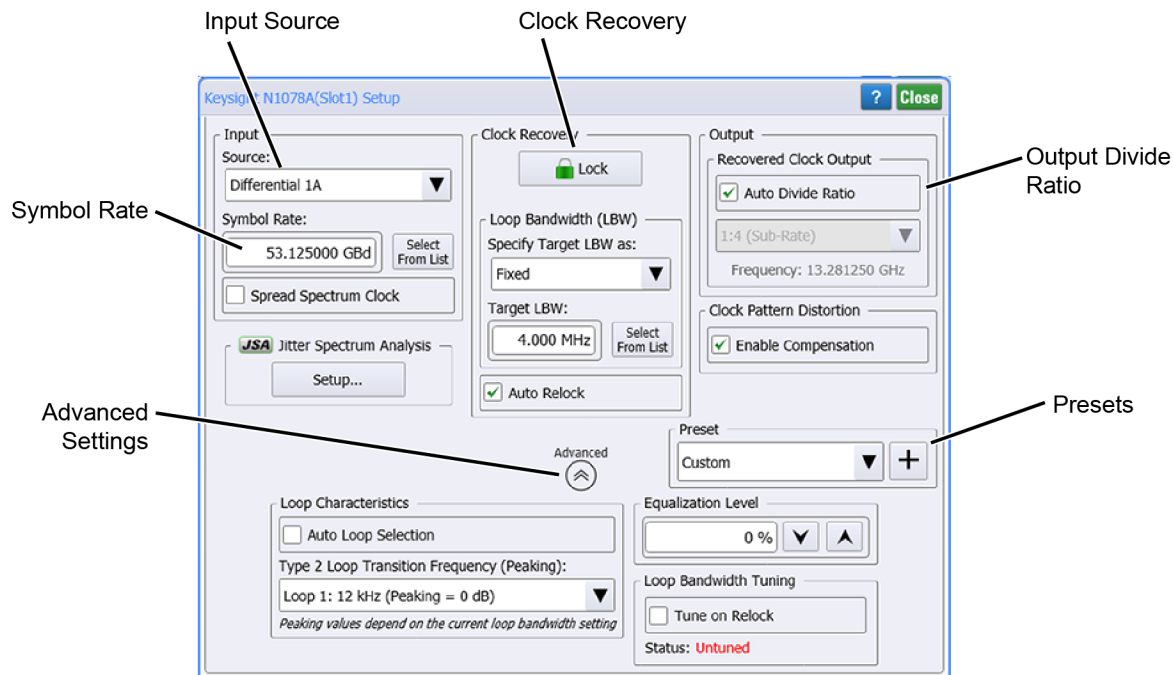

Figure 47. Clock Recovery Setup Dialog
6. Click **Setup > Modules > (Slot 6): Clock Recovery**. The dialog shown *Figure 47 on page 94* is displayed. The picture does not show settings required for this procedure.